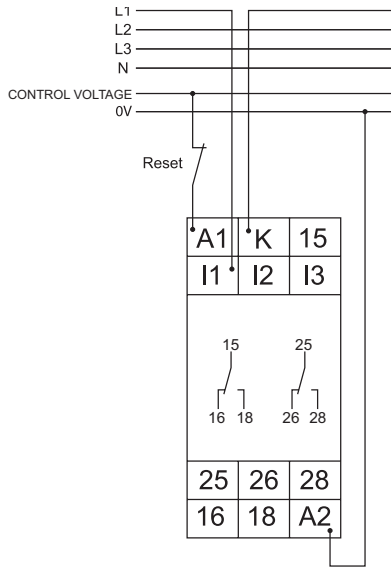

Figure 1
4. Connect monitored current input^① to either terminal I1, I2, or I3 depending on magnitude current to be monitored per the following:
- a. 5mA – 100mA = I1 (See Figure 1)^②